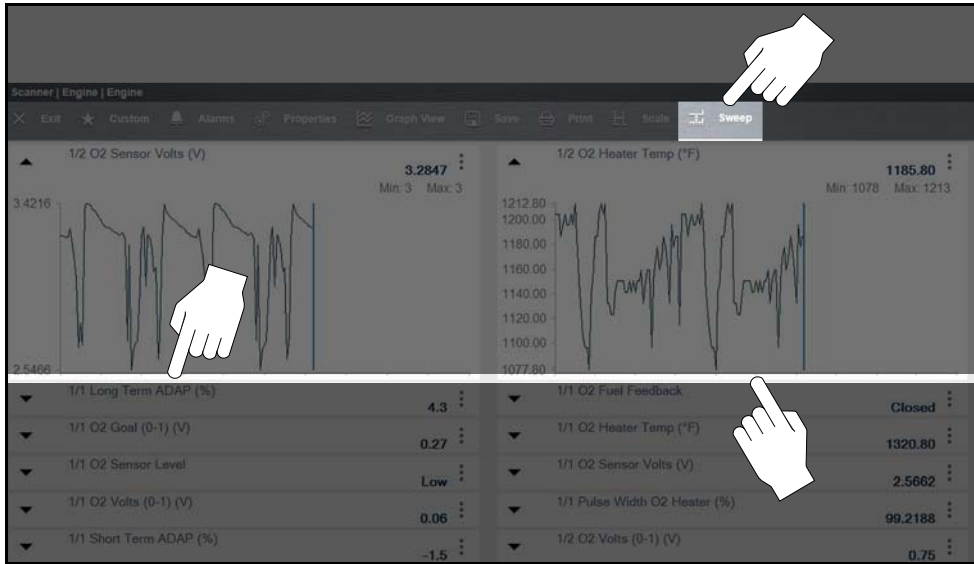

Figure 5-53 Sweep values (shown OFF)
**Sweep** allows you to display/hide the graph sweep values, displayed below the graphs (Figure 5-53).